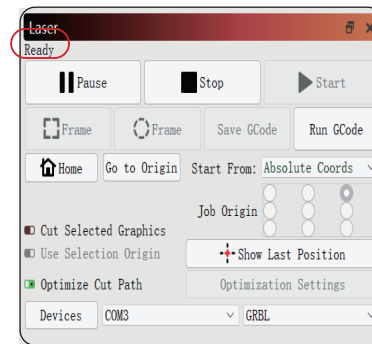

Figure 28 Select port
- If the software does not automatically connect to the laser engraver, you need to choose the port of the laser engraving machine as shown in the figure 28.